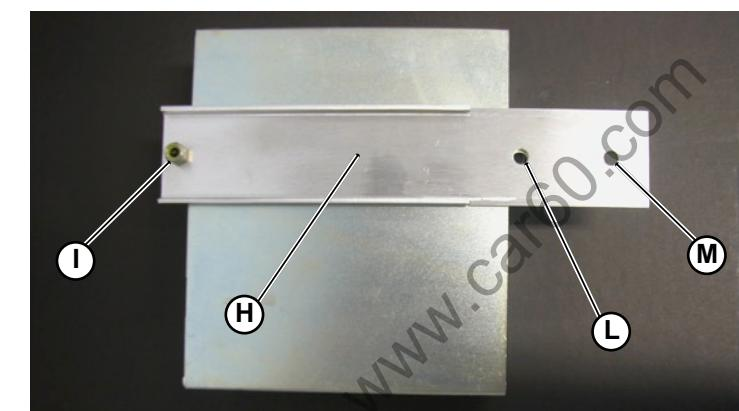
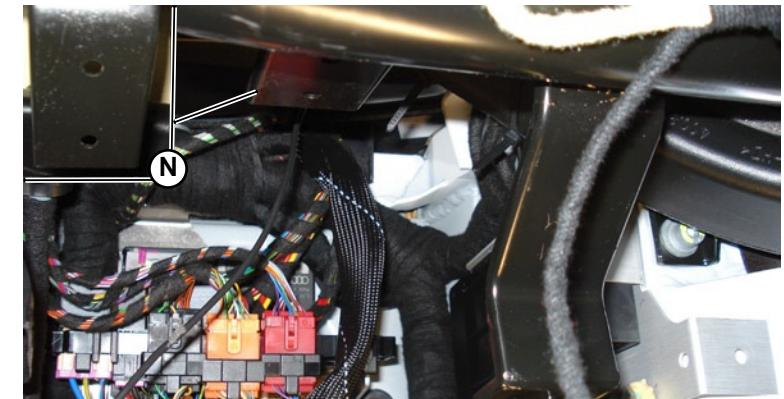

Fig.22
Fig.23
35. Place metal bracket (3-Fig.1) supplied with the kit on (H-Fig.22) the whole VTS ECU and metal protection cage so that the hole of the metal bracket coincide with the two fixing hole of the whole (I-Fig.22, L-Fig.22). The metal protection cage have to stop on the flat face of the metal bracket; as a consequence the bended edge of the bracket have to be direct upwards, as shown in the picture beside (Fig.22).
36. Using one M5 torx screw (14-Fig.3) and the proper M5 nut (12-Fig.3) supplied with the kit fix the metal bracket (H-Fig.22) on the whole VTS ECU and metal cage; at this point fix the component using only the hole (I-Fig.22) place at the end of the metal bracket, as shown in the picture beside (Fig.22).
37. Locate the black metal support (**N-Fig.23**) fixed at the car's chassis behind the glove box of the passenger side.
38. Position the whole metal bracket, VTS ECU and metal cage (assembled by the previous operations 35 and 36) below the black metal support (**N-Fig.23**) located at the previous point. The metal bracket have to be positioned so that its two nearest hole (**L-Fig.22, M-Fig.22**) perfectly coincide with the hole present on the black metal support of the car's chassis.
39. Using one M6 screw (**13-Fig.3**) and the proper M6 nut (**11-Fig.3**), fix the bracket (**H-Fig.22**) at the black metal support (**N-Fig.23**) using only the hole nearest the car's chassis (**O-Fig.24**).